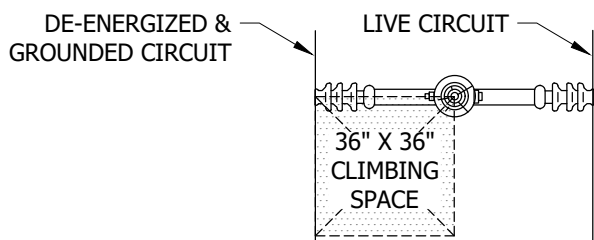

FIGURE 3 (IIIb)
- ONE OR BOTH CIRCUITS ARE DE-ENERGIZED, BOND WIRES AND DE-ENERGIZED CIRCUIT ARE GROUNDED, AND CLIMBING SPACE IS PROVIDED AS SHOWN IN FIGURES 3 & 4.